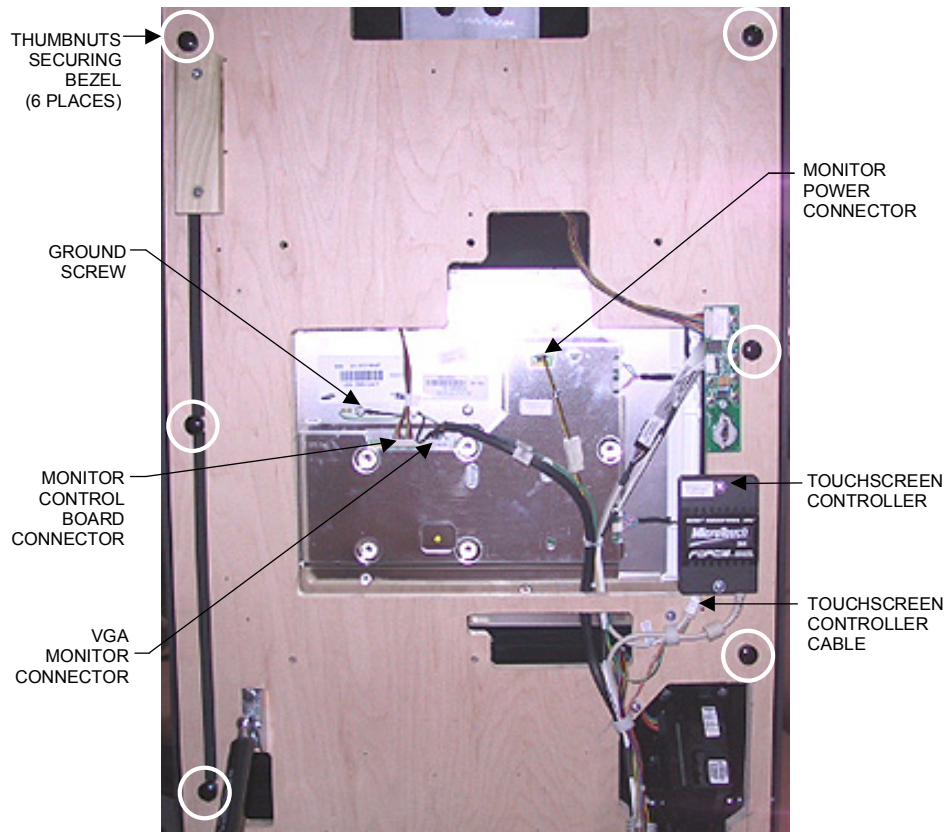
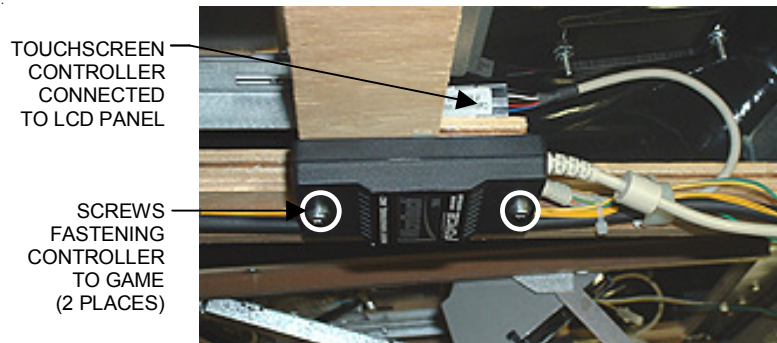

FIGURE 4 - FORCE FUSION WITH ELECTRONICS BOX - UNDERSIDE OF BEZEL
FIGURE 9 - FORCE FUSION WITHOUT ELECTRONICS BOX - TOUCHSCREEN CONTROLLER MOUNTED ON BEZEL
3. *Force games:* Remove the 6 thumbnuts fastening the bezel to the game (see Figure 4) and remove the bezel.
*Ion games:* Disconnect the dongle wire from the top of the electronics box and the fast-on connectors from the coin mech (see Figure 5). Remove the 6 thumbnuts fastening the bezel to the game (see Figure 4). Lift up on the bezel and disconnect the joystick harness (black, 10-pin connector) located between the bezel and the wooden frame. Remove the bezel.
4. *Force games:* Carefully remove the screws fastening the touchscreen controller (see Figure 4) to the game and disconnect the cable from the back of the controller; also disconnect the ground screw.
6. Disconnect the VGA monitor connector, as well as the monitor power connector and the monitor control board connector. (For Force games, see Figure 4; Ion games, see Figure 5.)
2. Connect the VGA monitor connector and ground screw, the monitor control board connector, and the monitor power connector to the new monitor. (See Figure 4 for Force games, Figure 5 for Ion games.)
controller (making sure that the cable's pins are correctly aligned) and secure the controller with the existing hardware (Figure 4).
4. Remove the screws fastening the touchscreen controller (see Figure 4) to the game and *carefully* disconnect the cable from the back of the controller. Disconnect the ground screw, and release the cables from the cable clamps. See Figures 9 and 10.
6. *Carefully* reconnect the touchscreen controller cable in the back of the controller and secure the controller in the game with the existing hardware. Reattach the ground screw. Replace the cables in the clamps as before. See Figures 9 and 10.